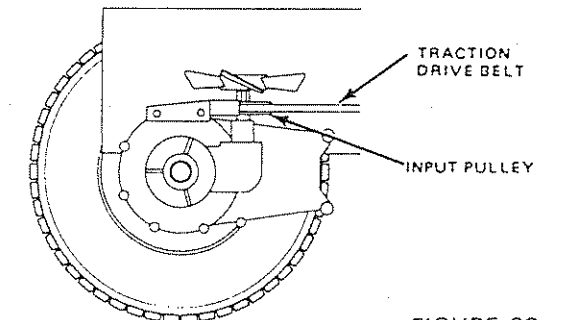

FIGURE 28
- Place top side of Belt between blades of fan and rotate fan (Fig. 28). Remove Belt from Input Pulley (Fig. 28).